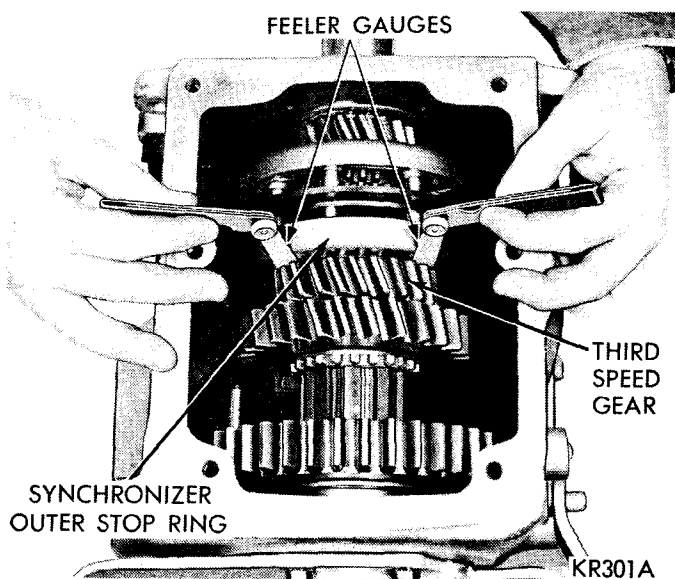

Fig. 3—Measuring Synchronizer End Play
(1) Before removal and disassembly of drive pinion and mainshaft measure end play between synchronizer outer stop ring and third speed gear (Fig. 3). Record reading for reference during build-up. Note deviation from ideal .050 to .070 inch allowable end play so that correction shims can be installed during assembly. Thick or thin shims are available as required.